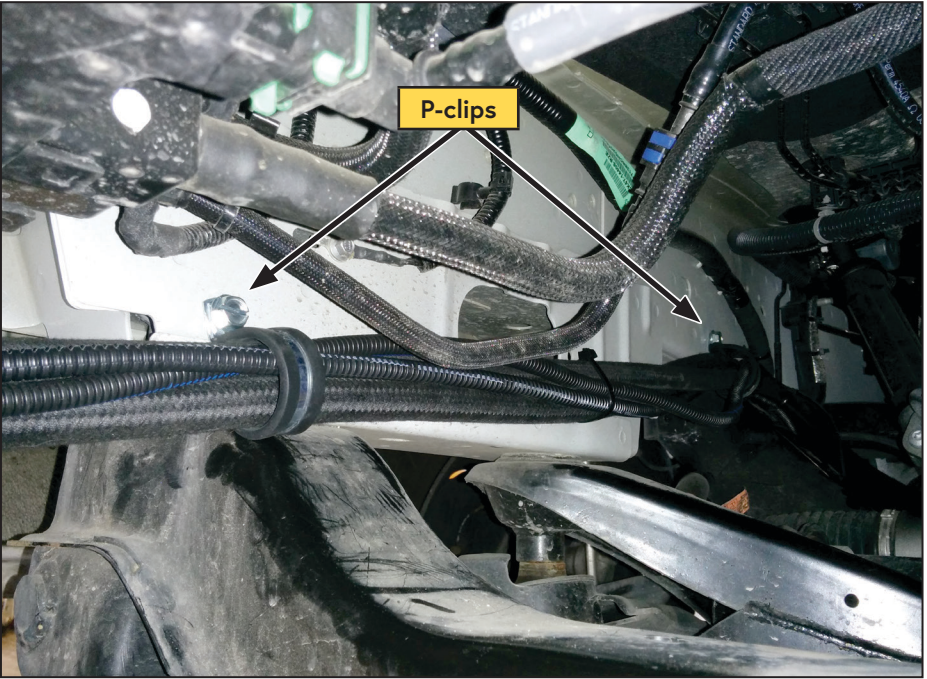

Figure 35 — Hose routing along inside of driver side frame
- Route the hoses along the inside of the driver side frame rail and secure them using the 2 supplied P-clips and 5/16 in x 3/4 in sheet metal screws in the existing holes on the frame (Figure 35).